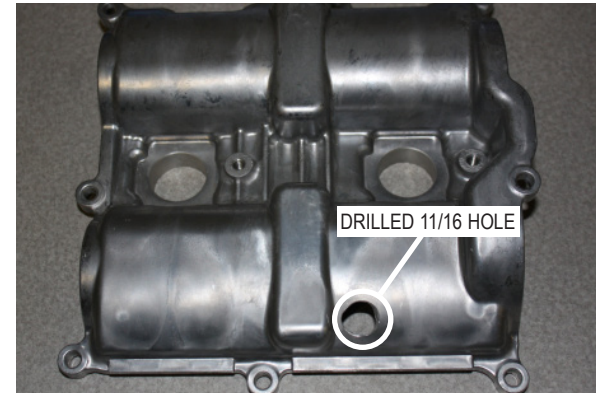

Fig. 11J
- M. Drill through the pilot hole using a 11/16 drill bit or cutter. Be sure to clean off any shavings or burrs from the drilled hole. See Fig. 11J